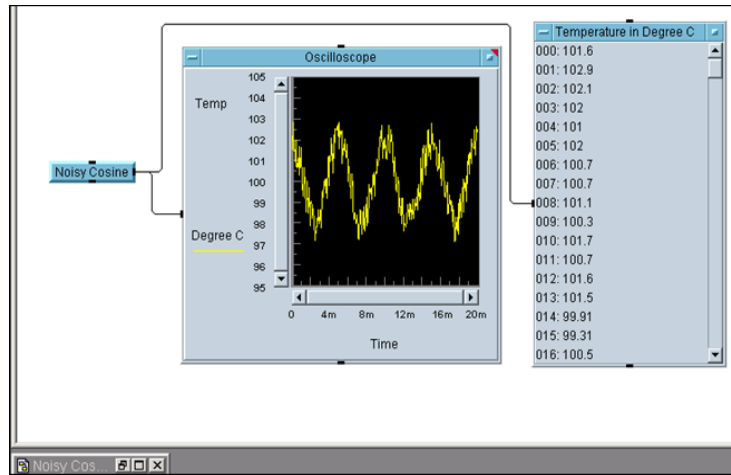

Figure 1-19 Three views of UserObject and the Red Triangle
- 12** Double-click on the AlphaNumeric. Change its Title to Temperature in Degree C. Select Menu Bar => View => Program Explorer. Three views of the UserObject will appear as shown in Figure 1-19.